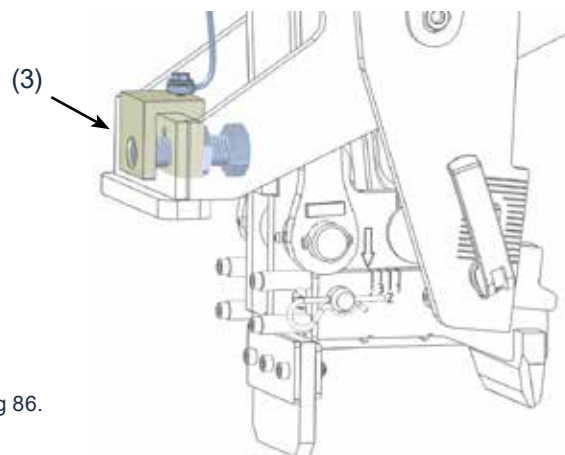

Fig 86.
4. Position the work head in between two sleepers to operate the arms against the mechanical stop.(3) Fig 86.
9. If the clips are not fully retracted, adjust the mechanical stop screw (3) Fig 86.